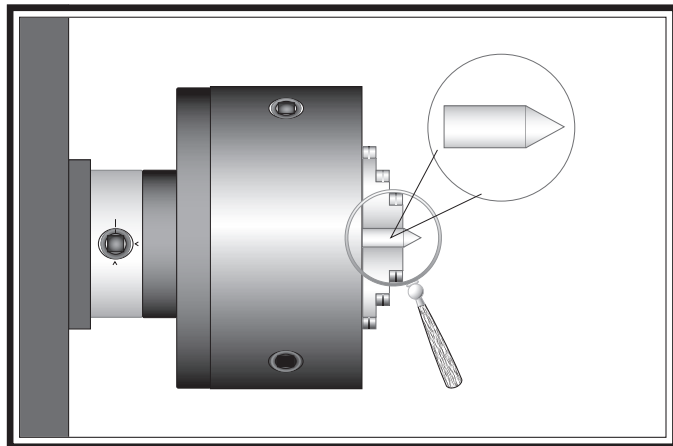

Figure 30. Turning a dead center.
3. Use the other piece of round stock to make a dead center, and turn it to a 60° point, as illustrated in **Figure 30**.